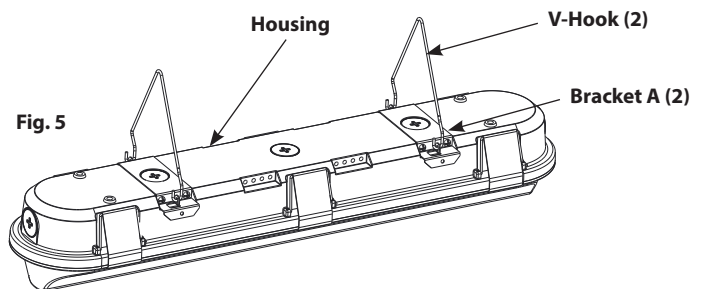

Fig. 5
2. Loop **V-Hooks (2)** on **Bracket A (2)** as shown in **Fig. 5**.
3. To suspend **Housing**, connect each **V-Hook** to two (2) equal lengths of chain (not supplied) and/ or appropriate hardware (by others) suitable for mounting surface. Use chain suitable to support four (4) times the weight of the fixture.